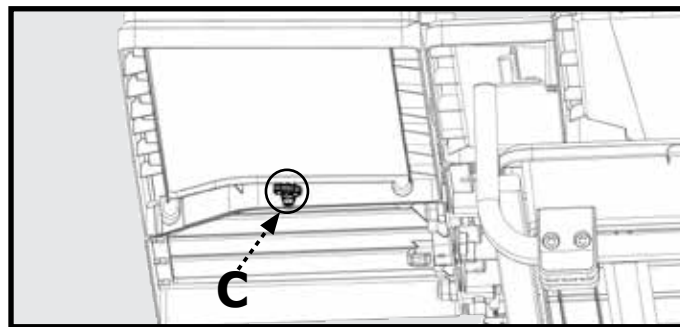

Figure 14
1. Place the Side Splash Tray (17) to align with the Table Extension.
2. Secure the Side Splash Tray to the Table Extension by tightening the Thumbscrew (C) under the Side Splash Tray as shown in Figure 14.